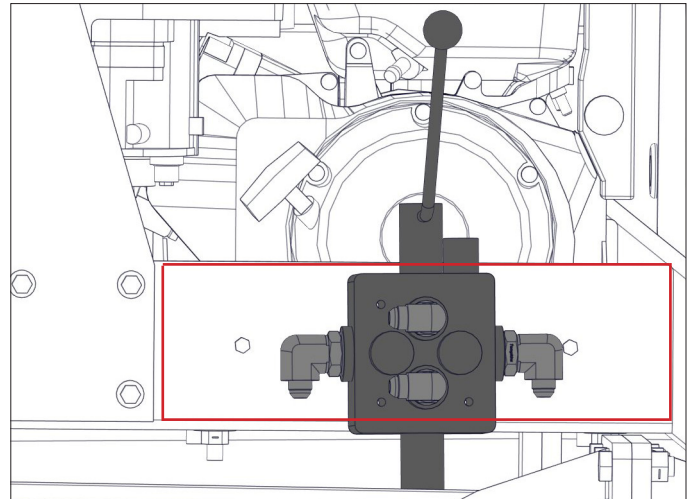

Fig. 14
- **Place control in the center of the red box in Fig.14.**
- **Drill (2) 5/16" holes using the points as a guide.**
- **Attach the valve control using (2) 1/4" x 2" hex bolts and (2) 1/4" centerlock hex nuts.**